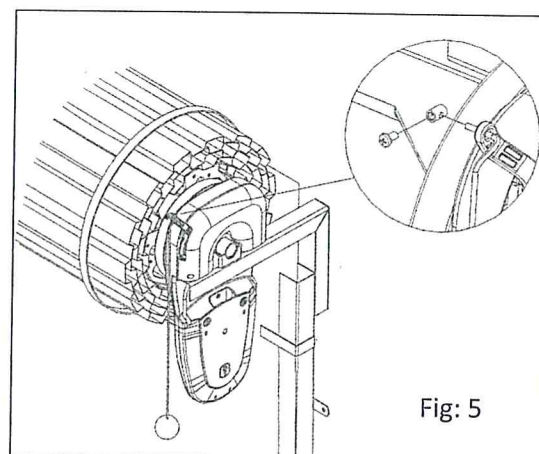

Fig: 5
- l) Insert manual release cable into the manual release lever in the motor and secure it by tightening the lock screw. (Fig 5)